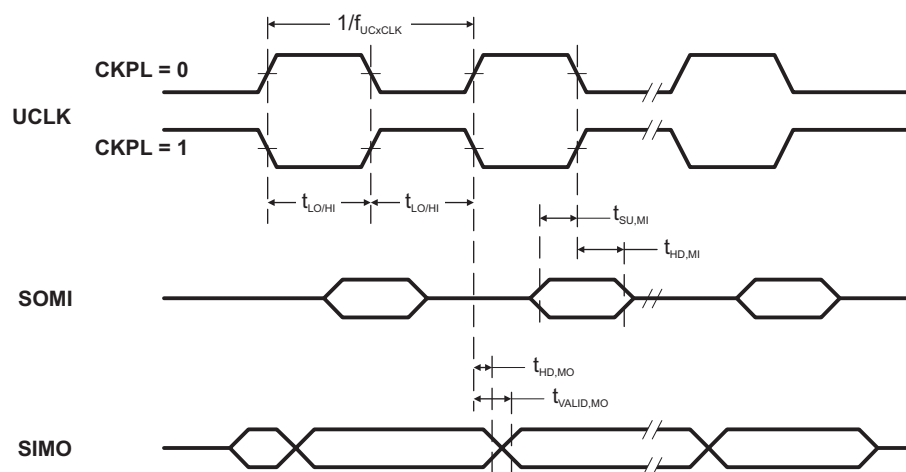
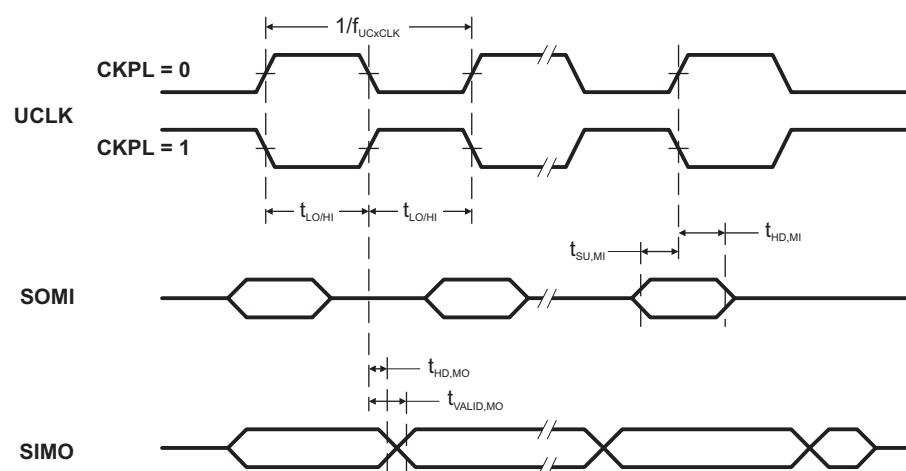

Figure 12. SPI Master Mode, CKPH = 0
Figure 13. SPI Master Mode, CKPH = 1
(see Note ⁽¹⁾, Figure 12 and Figure 13)
(2) Specifies the time to drive the next valid data to the SIMO output after the output changing UCLK clock edge. See the timing diagrams in Figure 12 and Figure 13.
(3) Specifies how long data on the SIMO output is valid after the output changing UCLK clock edge. Negative values indicate that the data on the SIMO output can become invalid before the output changing clock edge observed on UCLK. See the timing diagrams in Figure 12 and Figure 13.
- (2) Specifies the time to drive the next valid data to the SOMI output after the output changing UCLK clock edge. See the timing diagrams in Figure 12 and Figure 13.
- (3) Specifies how long data on the SOMI output is valid after the output changing UCLK clock edge. See the timing diagrams in Figure 12 and Figure 13.